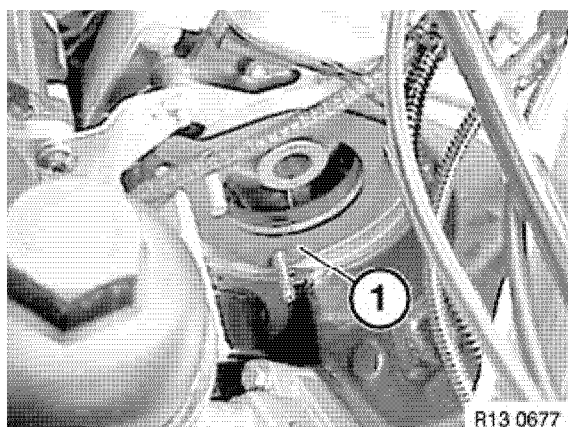

Figure 6-30
2. Ensure gasket surfaces of the engine block and high-pressure pump are clean. Install new gasket (1, **Figure 6-30**).